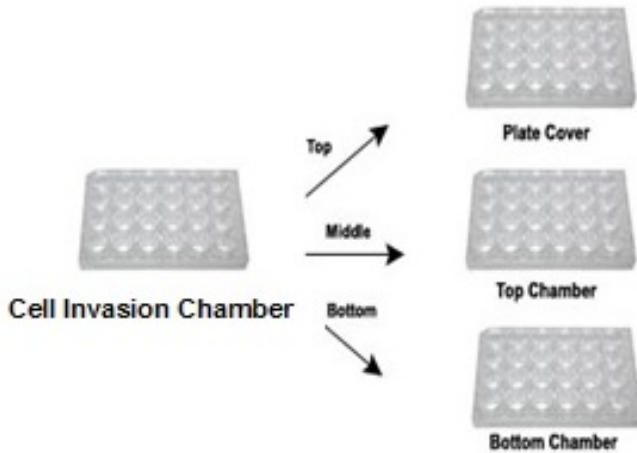

Figure 1. Cell Invasion plate: The cells are added to the Top Chamber and the Control Invasion Inducer or chemoattractant are added to the Bottom Chamber.
6. Under sterile conditions, disassemble the Cell Migration Chamber, 24-Well (8 μm) (Figure 1) and carefully remove the plate cover and the top chamber.